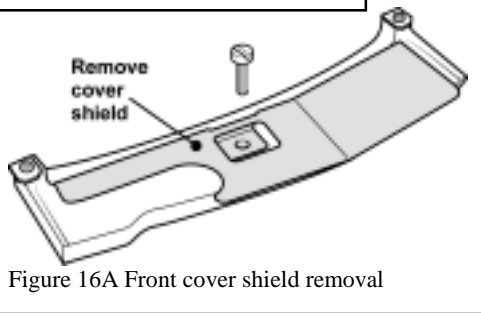

Figure 16A Front cover shield removal
- The shield at the back of the bottom front cover is not applicable for this appliance. It may prevent the front cover from being able to be placed properly in position. Unscrew the knob retaining screw to remove it. See figure 16A.